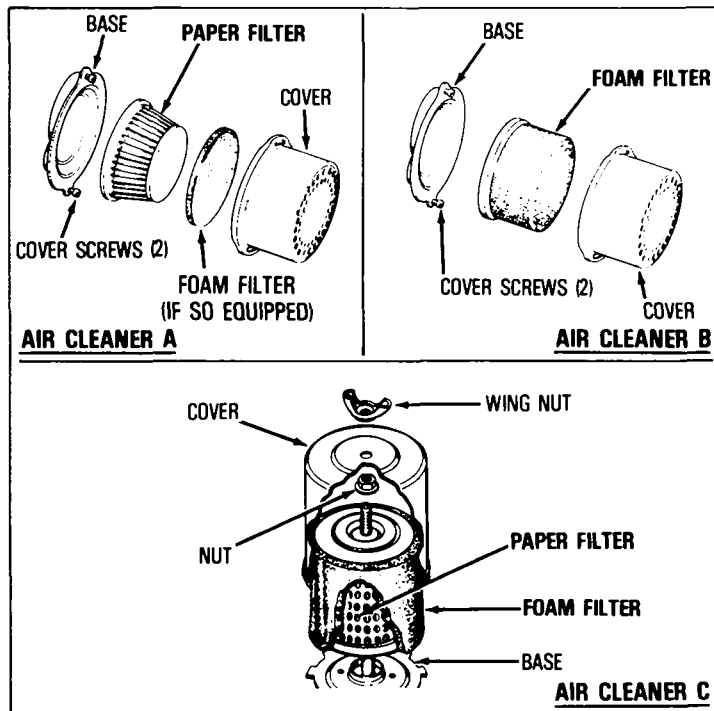

Figure 6
A. TO SERVICE FILTER(S) (see Figure 6):
AIR CLEANER A (see Figure 6):
AIR CLEANER B (see Figure 6):
AIR CLEANER C (see Figure 6):